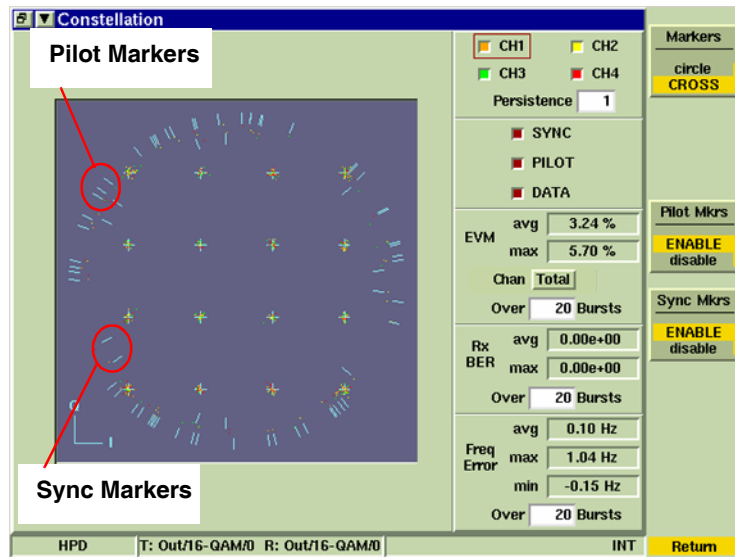

Fig. 2-19 Constellation SYNC and PILOT Markers Enabled
Enables (ON) and disables (OFF) Pilot markers on the Constellation display field. The Pilot markers are located on the outer circle of the example provided in Fig. 2-19. This soft key is accessed by pressing the [\[Markers\] Soft Key](#).
Enables (ON) and disables (OFF) Sync markers on the Constellation display field. The Sync markers are located on the inside circle of the example provided in Fig. 2-19. This soft key is accessed by pressing the [\[Markers\] Soft Key](#).